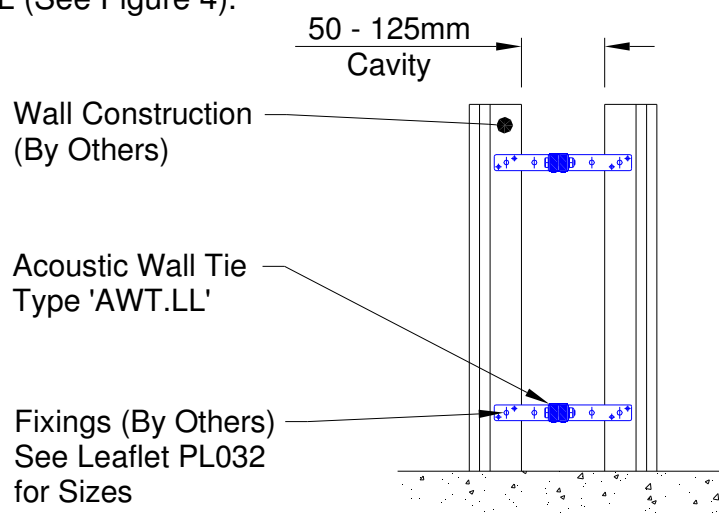

Figure 4
- c). Internal double partition walls with cavity wall widths of 50 to 125mm using acoustic wall tie type AWT.LL (See Figure 4).